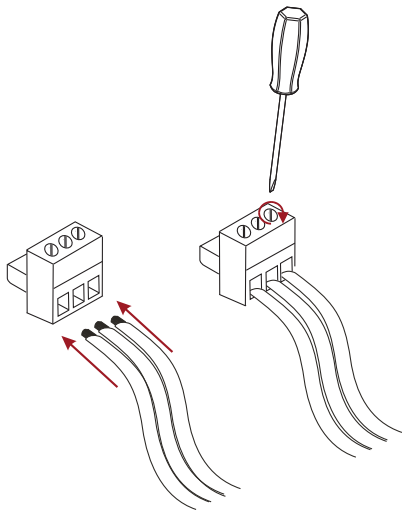

Figure 4-8 Signal Connection Detail
2. Remove sufficient insulation from the cables and insert stripped cables into the appropriate connector. Then tighten the corresponding terminal screw using a flat screwdriver Figure 4-8.